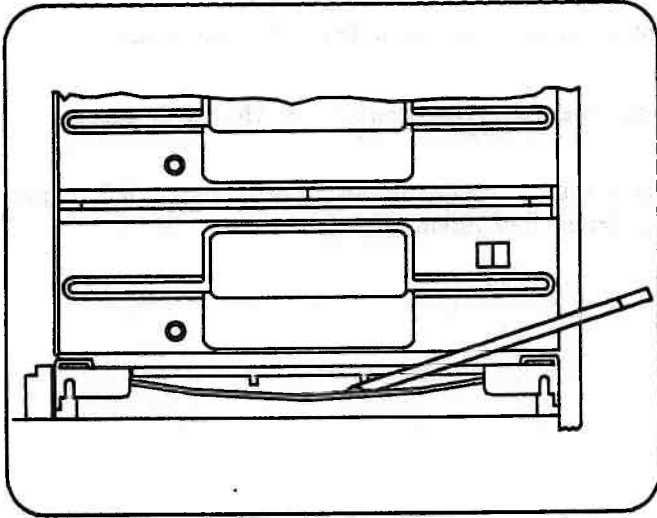

Figure 5-63. Unlocking the Drive Assembly
5. Using a screwdriver, push down the metal bar below the drive assembly and slide the assembly forward to permit access to the signal and power cables. (Figure 5-63).